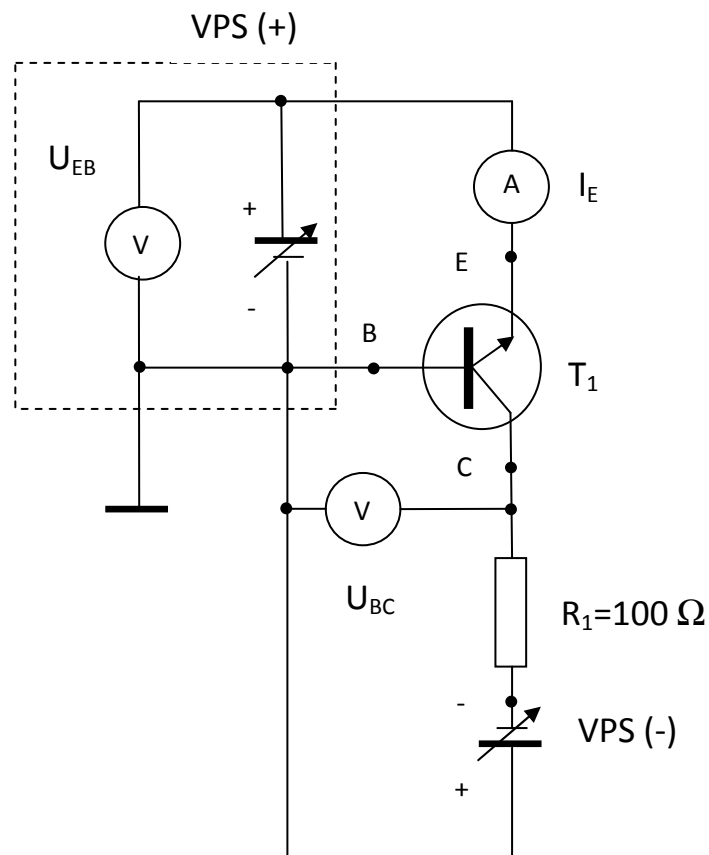

Fig. 3.4. Schematic of measurement setup utilized to determine current-voltage characteristics of collector diode.
- 4.4. Construct the measurement setup from Fig.3.4. Use Agilent multimeter to measure the emitter current. Use virtual power supply VPS(-) as a power supply polarizing base-collector circuit. Elements values equal to: $R_1=100\text{ }\Omega$, transistor T1 (use the same transistor as in 4.1). Measure the current-voltage characteristics of the npn bipolar transistor collector diode for the fixed U_{BE} voltage within the **0-5 V** range (the same value as in 4.3) (current limitation +20 mA) by noting I_E current value and U_{BC} voltage value (3 measurements per decade current change, from $1\text{ }\mu\text{A}$ to 10 mA). Value of I_E current is adjusted by setting the proper voltage at the output of VPS, in analogous way to measurements of semiconductor diode characteristic.